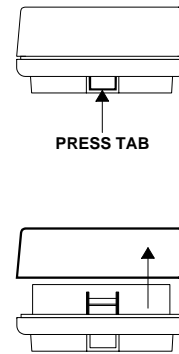

Figure 1. Disassembling the Siren
- 1) Disassemble the siren by pressing the tab on the bottom of the siren to separate the front cover from the back (see Figure 1). Set the front cover aside.